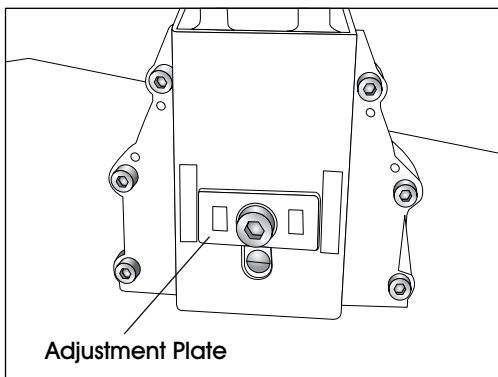

Figure 9
3. When the top edge of the adjustment plate is at its highest setting the teeth are at their shallowest penetration. (See Figure 9)